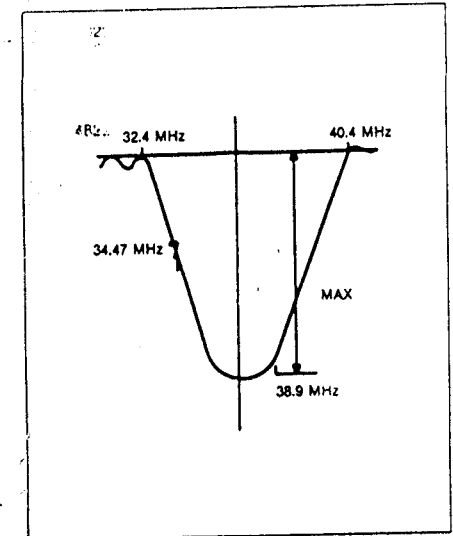

Fig. 16 VIF 38.9MHz Maximum Detection
- 9) Adjust the VIF Control (FL405) for maximum detection of 38.9MHz marker. (Fig. 16)